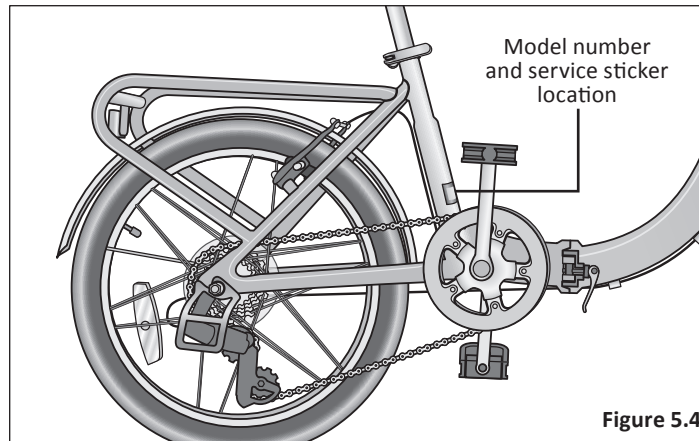

Figure 5.4
- Maintain a record of the bicycle's model number, located on the frame. **Figure 5.4**